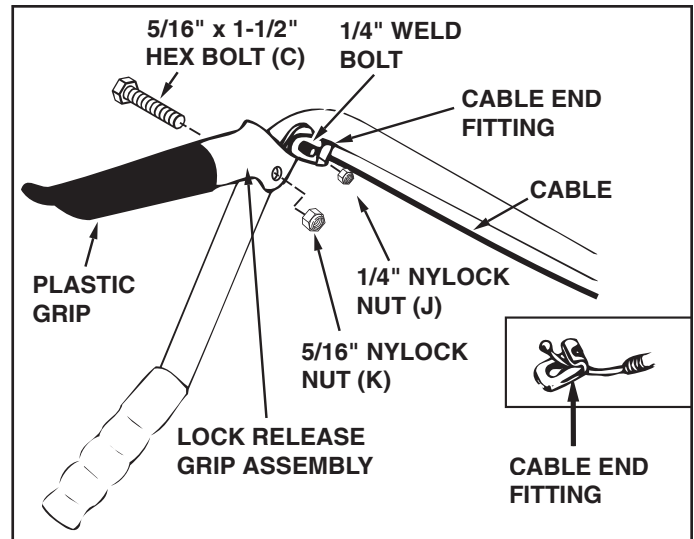

FIGURE 21 (Right Hand Side View)
STEP 21: (SEE FIGURE 21)
- Attach lock release grip assembly to lift handle tube using one 5/16" x 1-1/2" hex bolt (C) and one 5/16" nylock nut (K). **Do not overtighten** the nut. The grip assembly must pivot freely.
- Assemble the ball end of the cable to a cable end fitting as you did to the other end of the cable. Secure the cable end fitting to the weld bolt on the lock release grip with a 1/4" nylock nut (J). **Do not overtighten** the lock nut. The cable fitting must pivot freely.